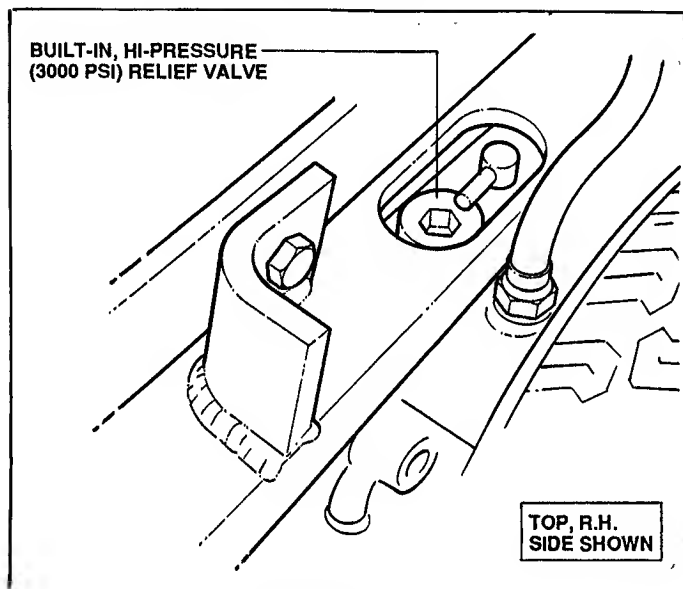

FIGURE 8.1
2. The Unistats are equipped with a built-in relief valve which is activated at 3000 psi to bypass fluid at excessive pressure. It will close when pressure has returned to normal. See Figure 8.1.
3. The built-in relief valve (See Figure 8.1) is a serviceable item. See Section VIII, Figure 9.16.